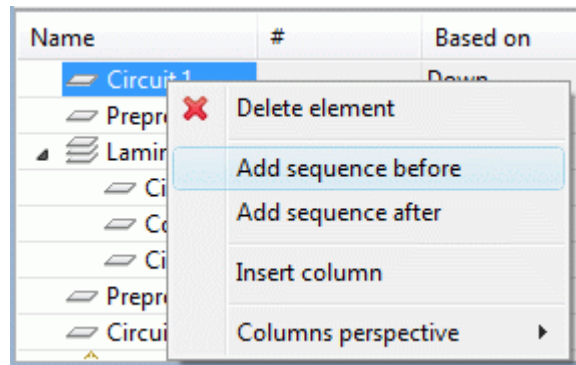

Figure 1. Context sensitive menu with selected *Add sequence before* menu item
- Right click and select the **Add sequence before** menu item in the appeared context sensitive menu (see Figure 1).